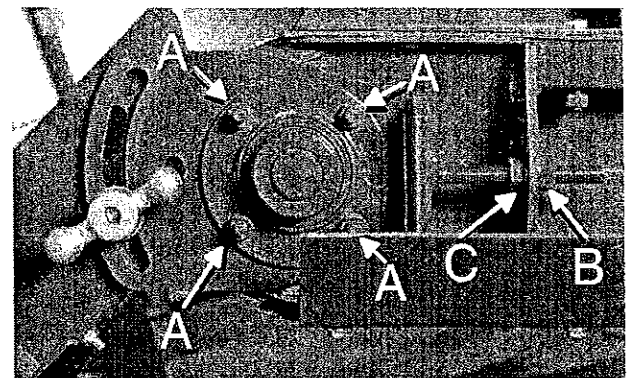

Figure 34. Extension Conveyor Belt Adjustment.
**Extension Conveyor (If Equipped)** - The tension adjustment procedure for the extension conveyor is the same as the main conveyor. The adjustment locations are shown in Figure 34. As with the main conveyor, ensure that the rollers are square to the frame.